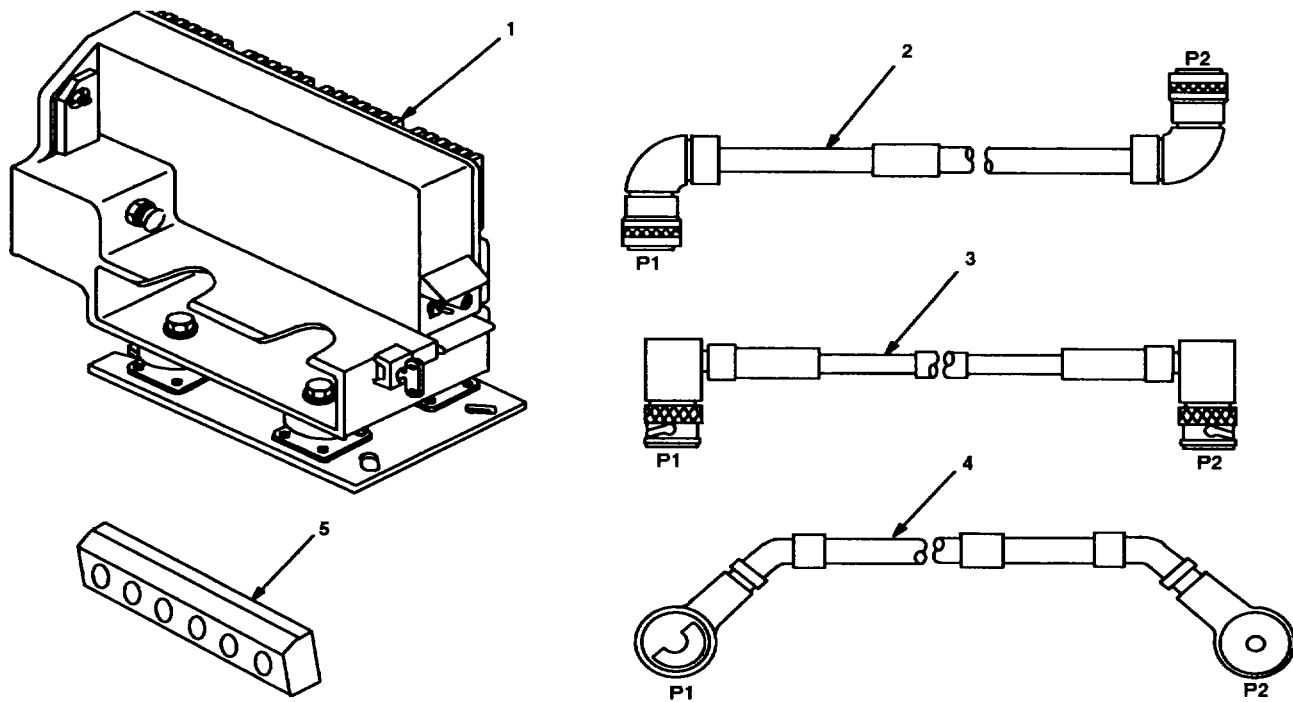
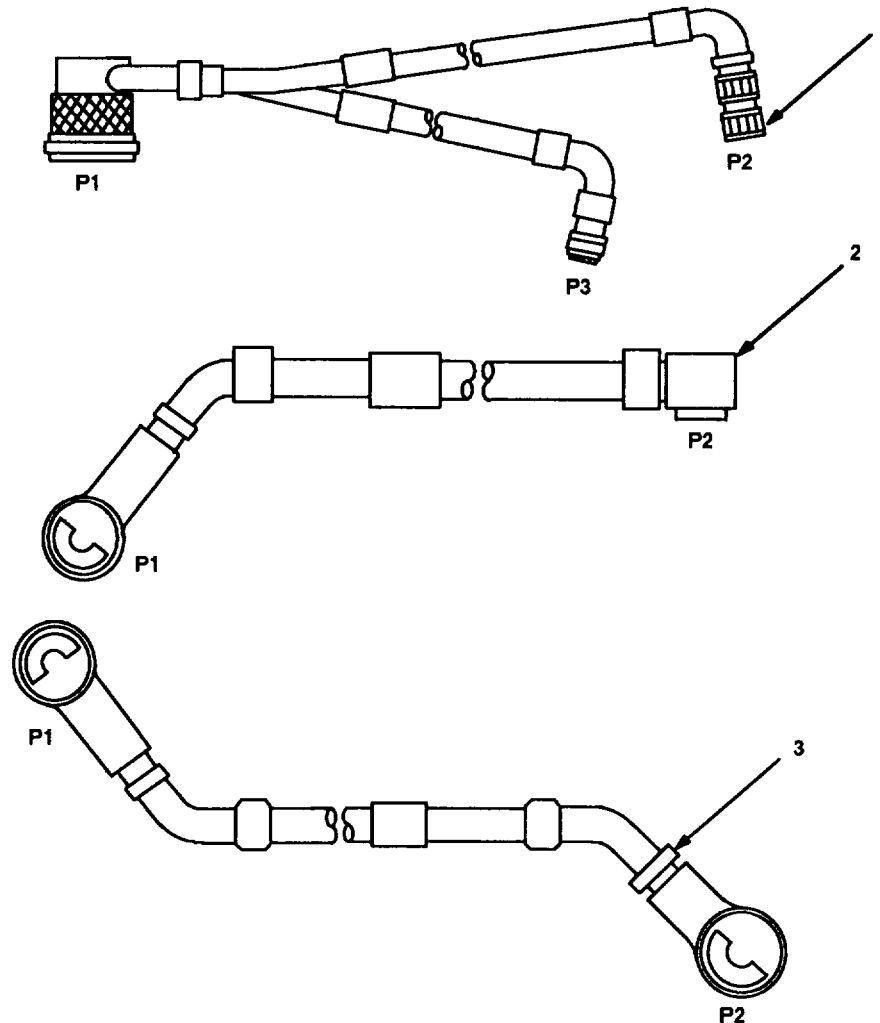

Figure 4-2. Illustrated Parts List for Table 4-2
Figure 4-3. TSEC/KY-57 Illustrated Parts List
4.3.1 Items Supplied in MK and/or Required for Installation. Use Table 4-1 and figure 4-1 to identify and inventory MK parts supplied to install Radio Set AN/VRC-92 Series. Refer to Table 4-2 and figure 4-2 to identify additional items required to install Radio Set AN/VRC-92 Series. Refer to Table 4-3 and figure 4-3 to identify additional items required to install when using RT-1439/VRC.